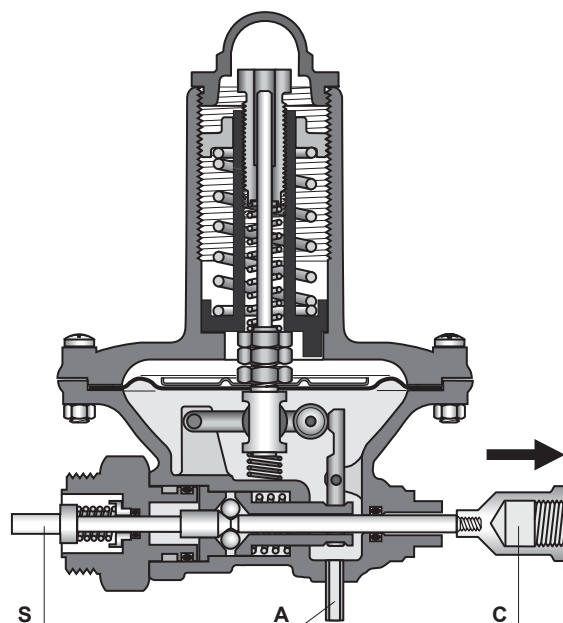

Figure 4. Type OS/66 Series Startup
- Place the balls holder (key 10) on the special tool, grease it thoroughly to prevent balls from falling out and lodge the balls (key 12) in their seats. Hold the special tool in a vertical position and tighten the balls holder.
- Adjust the position of balls holder (key 10) so that, with lever (key 24) held down at travel end, plate unit (key 8) moves freely and has a clearance of 0,2 to 0,3 mm.
- Place the adjusting nut (key 40) back in its original position as shown in Figure 4.
- Hold stem unit (key 41) slightly pressed to ensure proper fitting of diaphragm (key 36). Mount cover (key 7) and check that stem unit (key 41) is duly centered.
- Tighten cover screws (key 27) nuts (key 25) and washers (key 26) to ensure proper sealing.
- Remount the controller and secure it by means of screws (key 29).